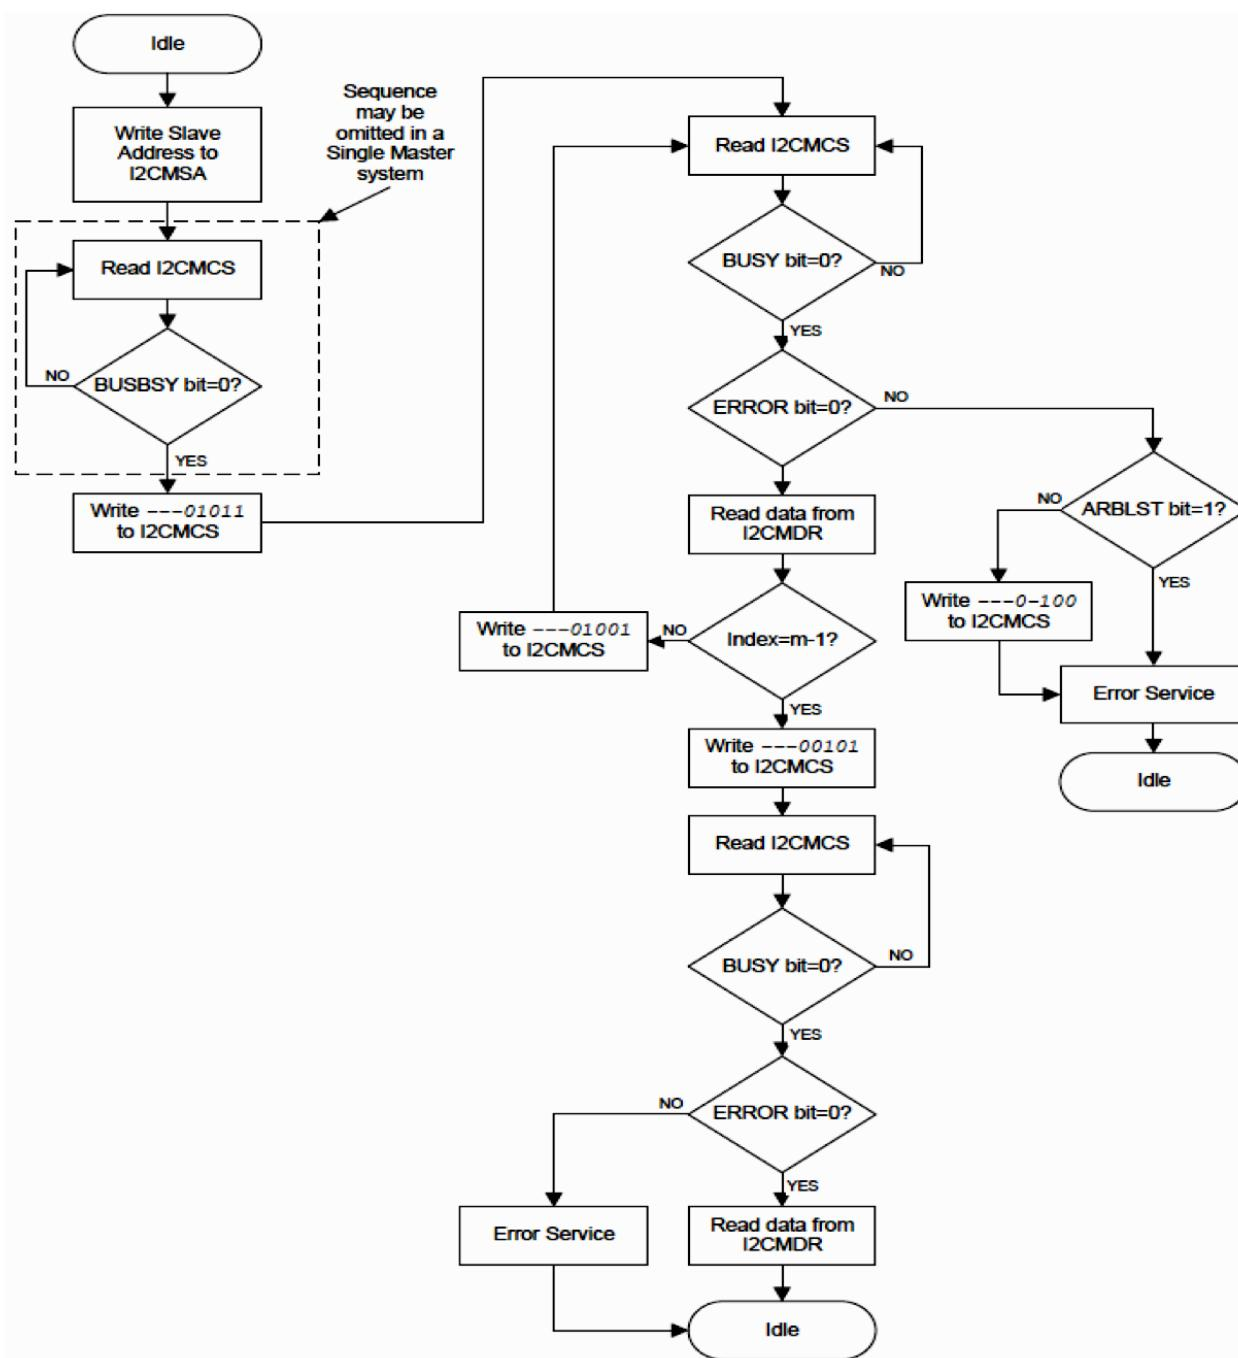

Figure 8.47 The operational sequence of the master working in the receive mode.
- The complete operational sequence of the master working in the receiving mode is shown in Figure 8.47.